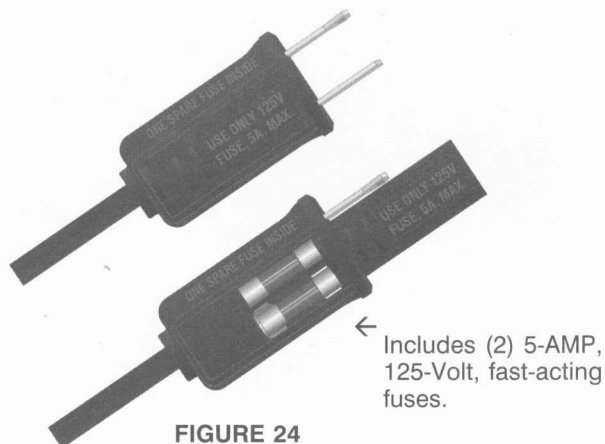

FIGURE 24
Notice the new Fused Plug on the Humidistat Power Cord in Figure 24. In the event of damage to the cord, or a direct lightning strike, the fuse in the plug will “blow out” and prevent the flow of electricity through the power cord, thus preventing any further damage. The plug contains two 5-AMP, 125-Volt glass fuses. If the green POWER light is not on, advise the piano owner to unplug the System and inspect the cord for damage. If there is no damage, remove the fuse from the brass clips inside the plug and replace it with the spare fuse in the plug. If the cord is damaged, the Humidistat should not be plugged into an electrical outlet. Call our technical support number for instructions, (800) 438-1524 or (828) 692-8271.